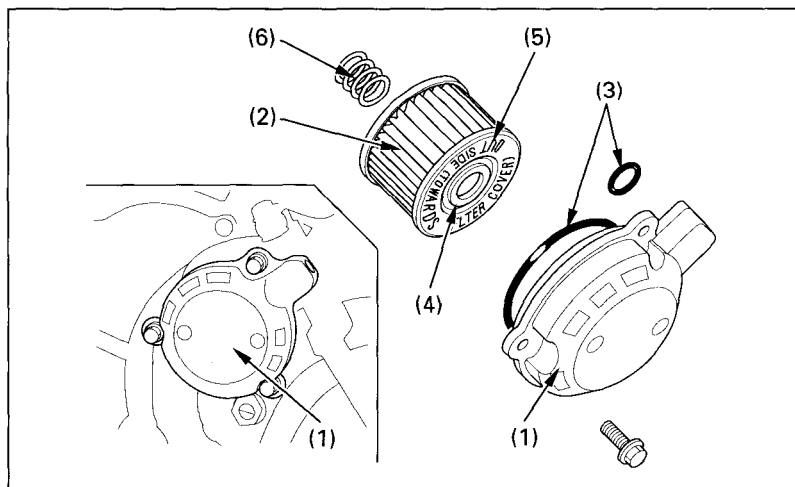

Fig. 4-14 (1) Oil filter cover
(1) Oil drain plug
3. Remove the oil filter cover (1) (Fig. 4-14) by removing the bolts. Let the remaining oil drain out. Discard the oil filter (2).
4. Check that the oil filter cover O-rings (3) are in good condition and then install a new oil filter. Use only the Honda genuine oil filter or a filter of equivalent quality specified for your model. Using the wrong Honda filter or a non-Honda filter which is not of equivalent quality may cause engine damage.